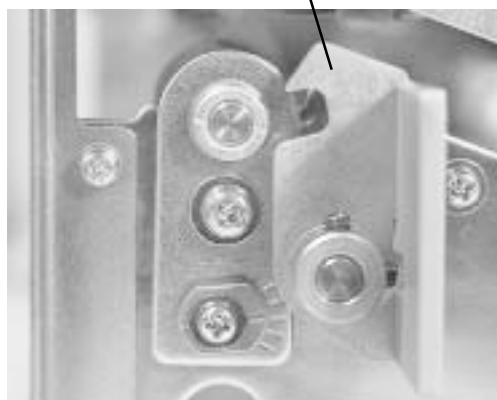

Fig. 6-38
11.	Install new platen by reversing removal procedure above. NOTE: It is important to verify that spring on head release lever is not under bushing holding plate but is properly positioned alongside it. Fig. 6-38, 6-39